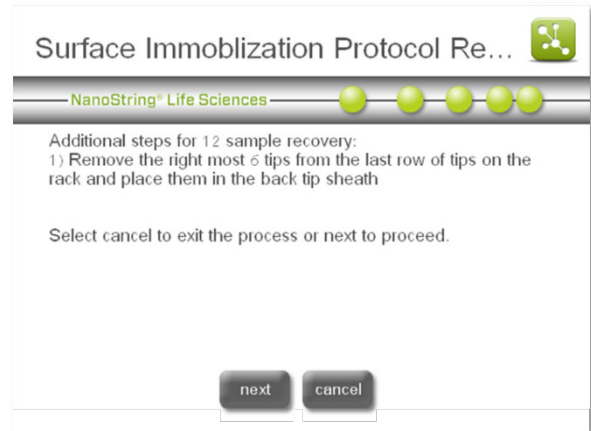

Figure 137: Additional instructions for the 'Surface Immobilization Protocol Recovery' workflow.
- Additional instructions will appear. These instructions apply only to recovery of 12 samples (Figure 137). Press **next**.